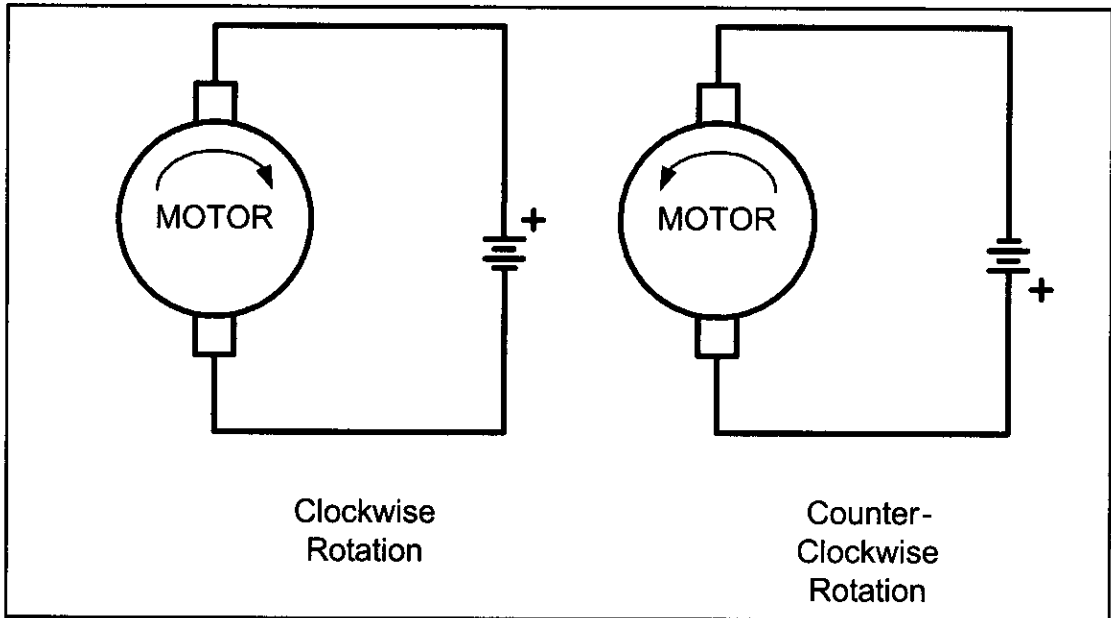

Figure 16-1. DC Motor Rotation (Permanent Magnet Field)
Figure 16-1 shows the DC motor rotation for clockwise (CW) and counter-clockwise (CCW) rotations. See Table 16-1 for selected DC motors.